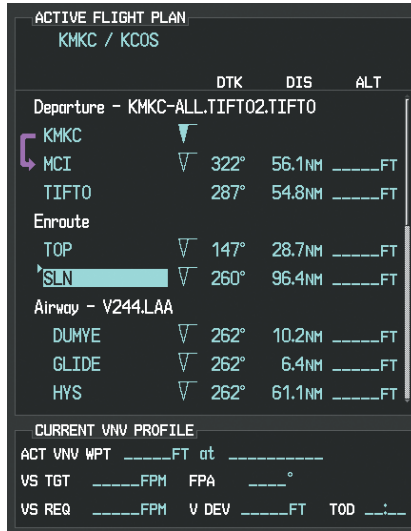

Figure 5-116 TOP Inserted into the Flight Plan
- d) Press the **ENT** Key. TOP is inserted into the flight plan as in Figure 5-116.